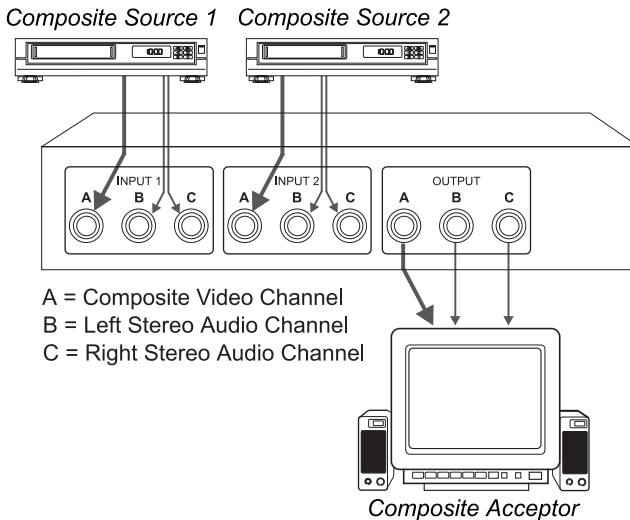

Figure 2: Connecting the VS-21 as a 2x1 Composite Video/Audio Switcher
- 2x1 Composite video switcher with 2 audio channels (see Figure 2)
To use your **VS-21** as a 2x1 composite video/audio switcher, connect the **VS-21** as the example in Figure 2 illustrates: